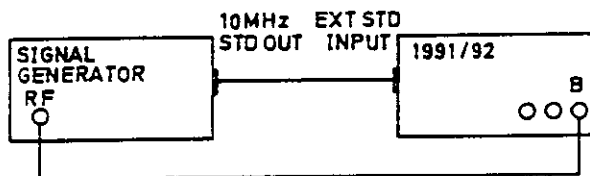

Figure 6.24 - Connections for Channel B Input System Adjustment
- Connect the test equipment as shown in Figure 6.24